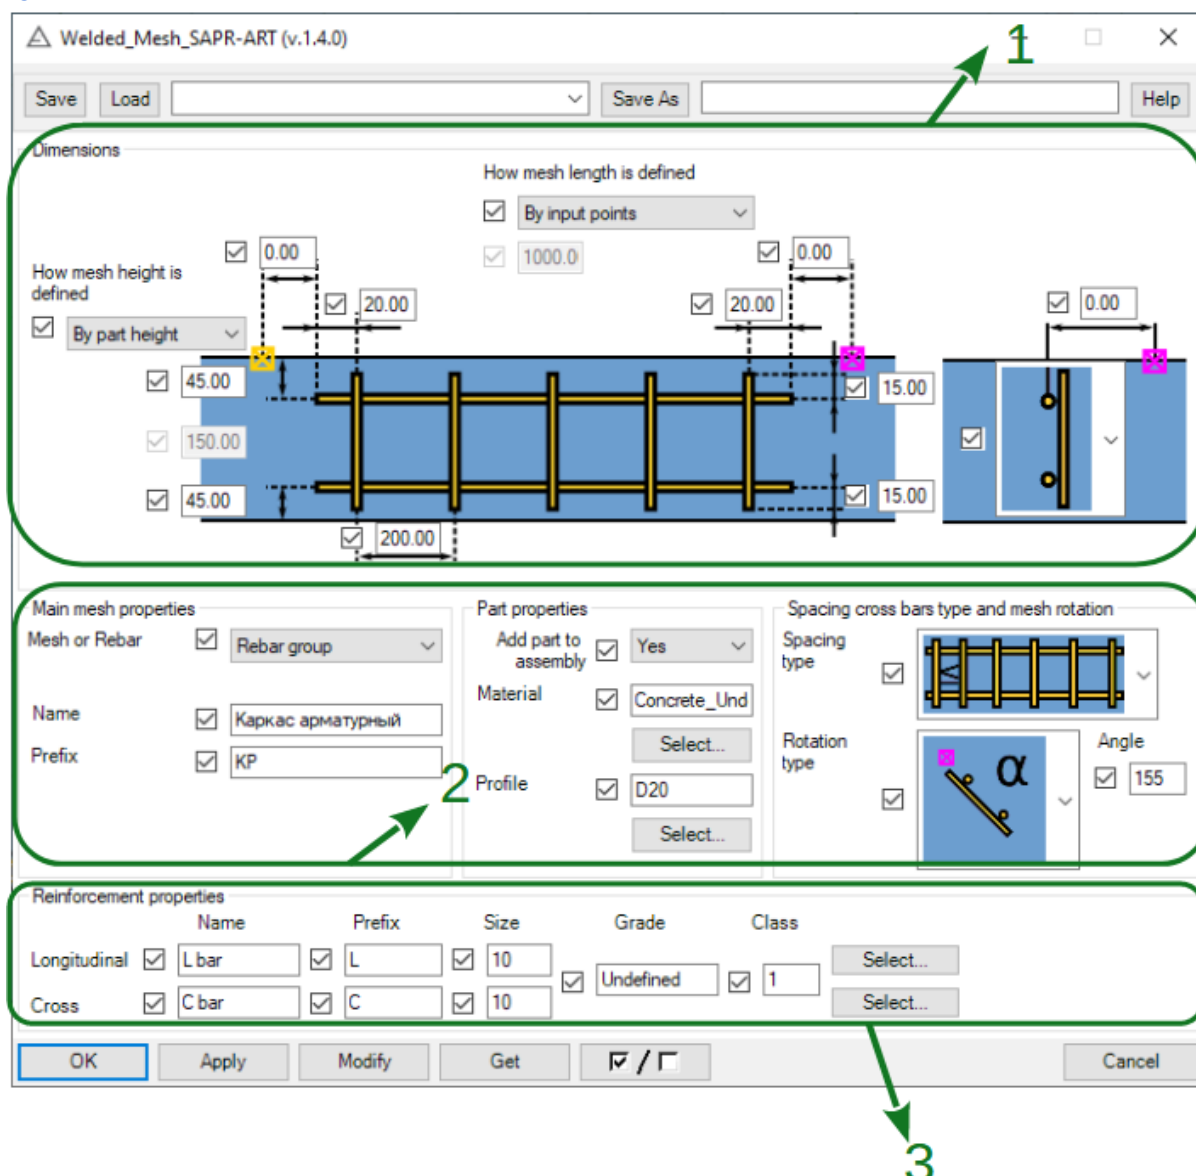

Figure 2. Main window of the plugin
In main plugins' window next group of properties are presented (see figure 2):
1. Group “**Dimensions**” - dimensions for welded mesh with covers (see figure 2 area 1)
2. Group of properties “**Main mesh properties**”, “**Part properties**”, “**Spacing cross bars types and mesh rotation**” - setting properties for reinforcing mesh (see figure 2 area 2)
3. Group properties “**Reinforcement properties**” - setting properties for bars (see figure 2 area 3)